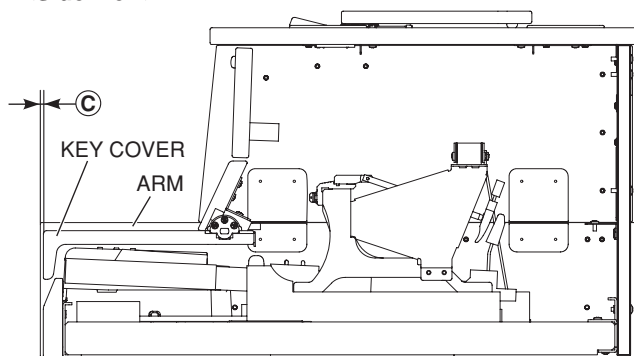

Fig. 4
Standard 2: Make sure that with the key cover closed the difference in level between the front surface of the arm and the front of the key cover is within the standard (especially the difference on the left and right). (Fig. 4)
3.2 mm ± 2 mm, difference on the left and right within 2 mm. (Fig. 4)